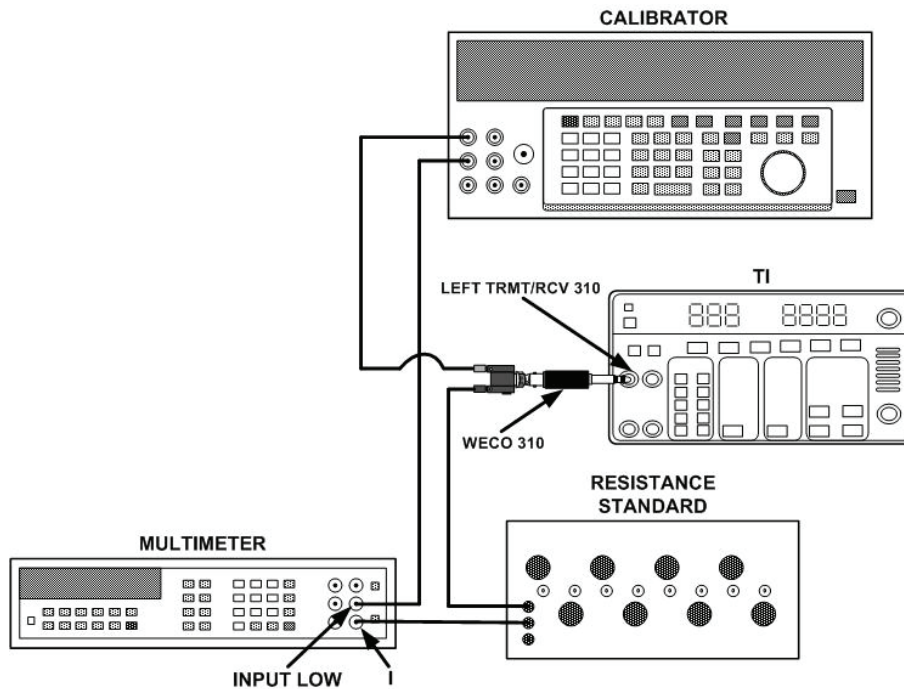

Figure 2. Hold circuit.
- (1) Connect equipment as shown in figure 2.